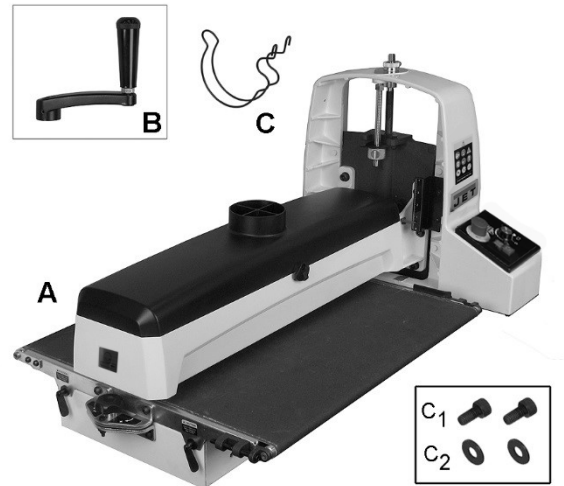

Figure 6-1: Sander contents (JWDS-2550-M shown)
**Box #1:** (see Figure 6-1)
- 1 Sander with conveyor table (A)
- 1 Height adjust handle (B)
- 1 Hose hanger (C)